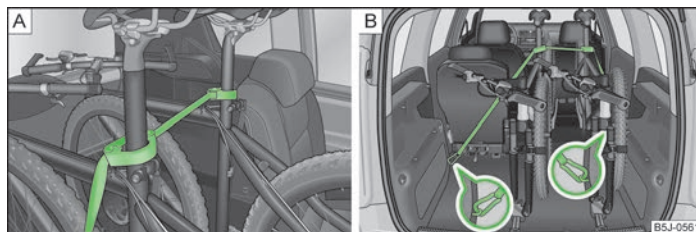

Fig. 56 Securing bicycles
- Position the clamp with the rubber part to the front (in direction of travel) as far as possible below the saddle support and close the clamp » Fig. 56 - [A].
- When transporting two bicycles, clamp the belt » Fig. 56 - [A] between the saddles by moving the bicycles apart.
- Hang the carabines at the ends of the belt into the lashing eyes behind the rear seats » Fig. 56 - [B].